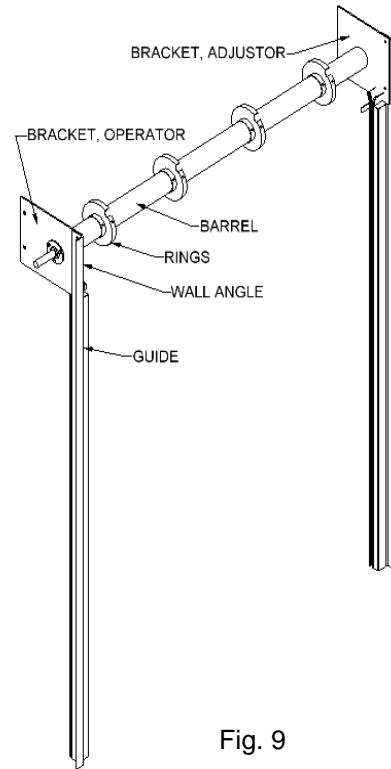

Fig. 9
4. Suspend the curtain using rope slings looped around the barrel and the grille. The rope slings should be spaced along the width of the curtain at 8-foot intervals. (Fig. 9)